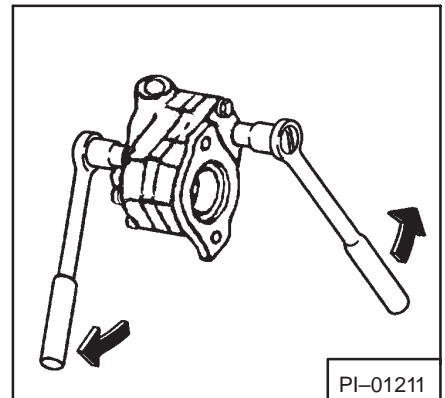

Fig. 28 Removing Pump Body Screws
4. Remove all the screws from the pump body (Fig. 28). Some of them enter from the shaft end and some from the cover end.